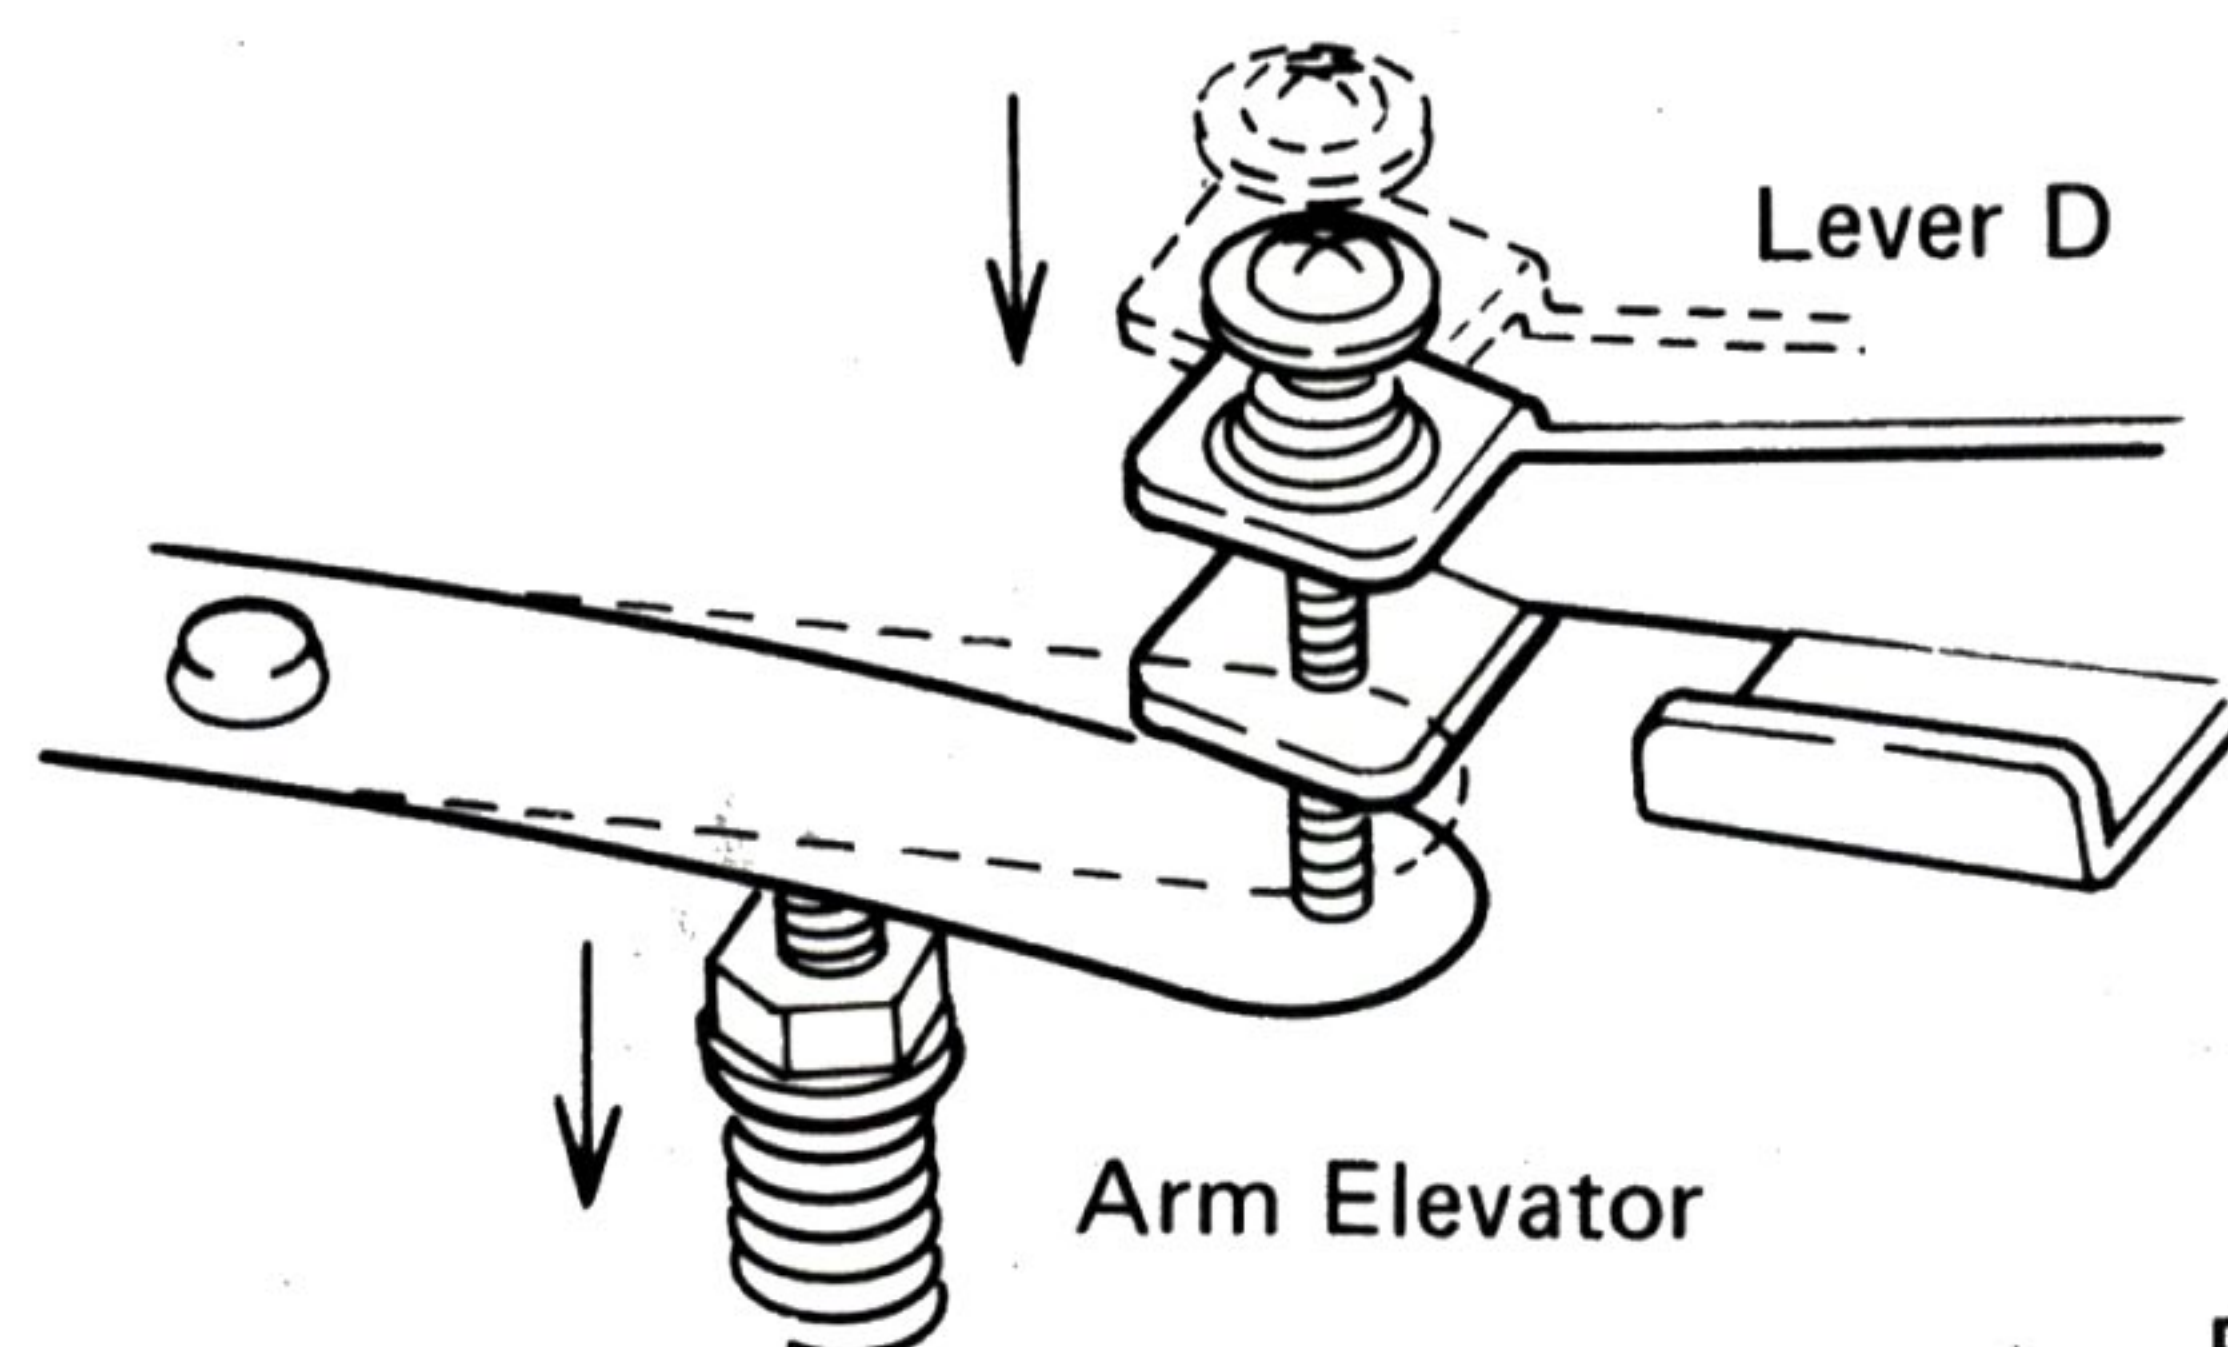

Fig. 13
- d) Lever D also moves, raising the arm elevator to UP position and locking microswitch A in ON position (Figs. 13, 14).